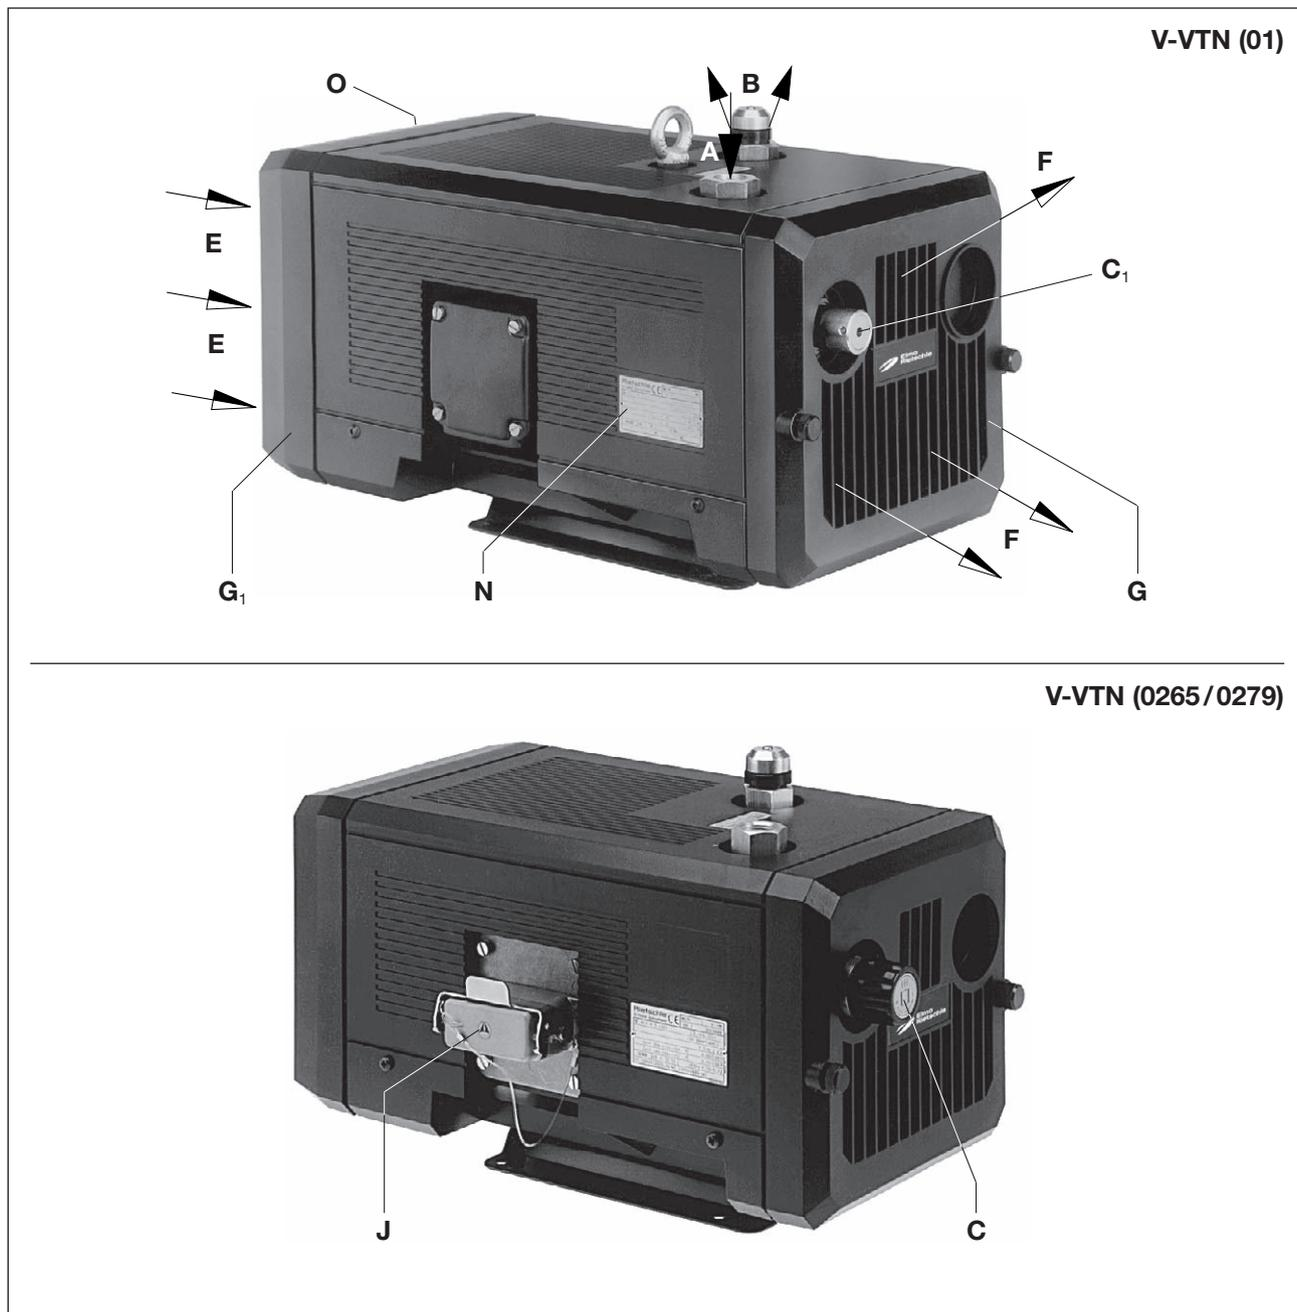
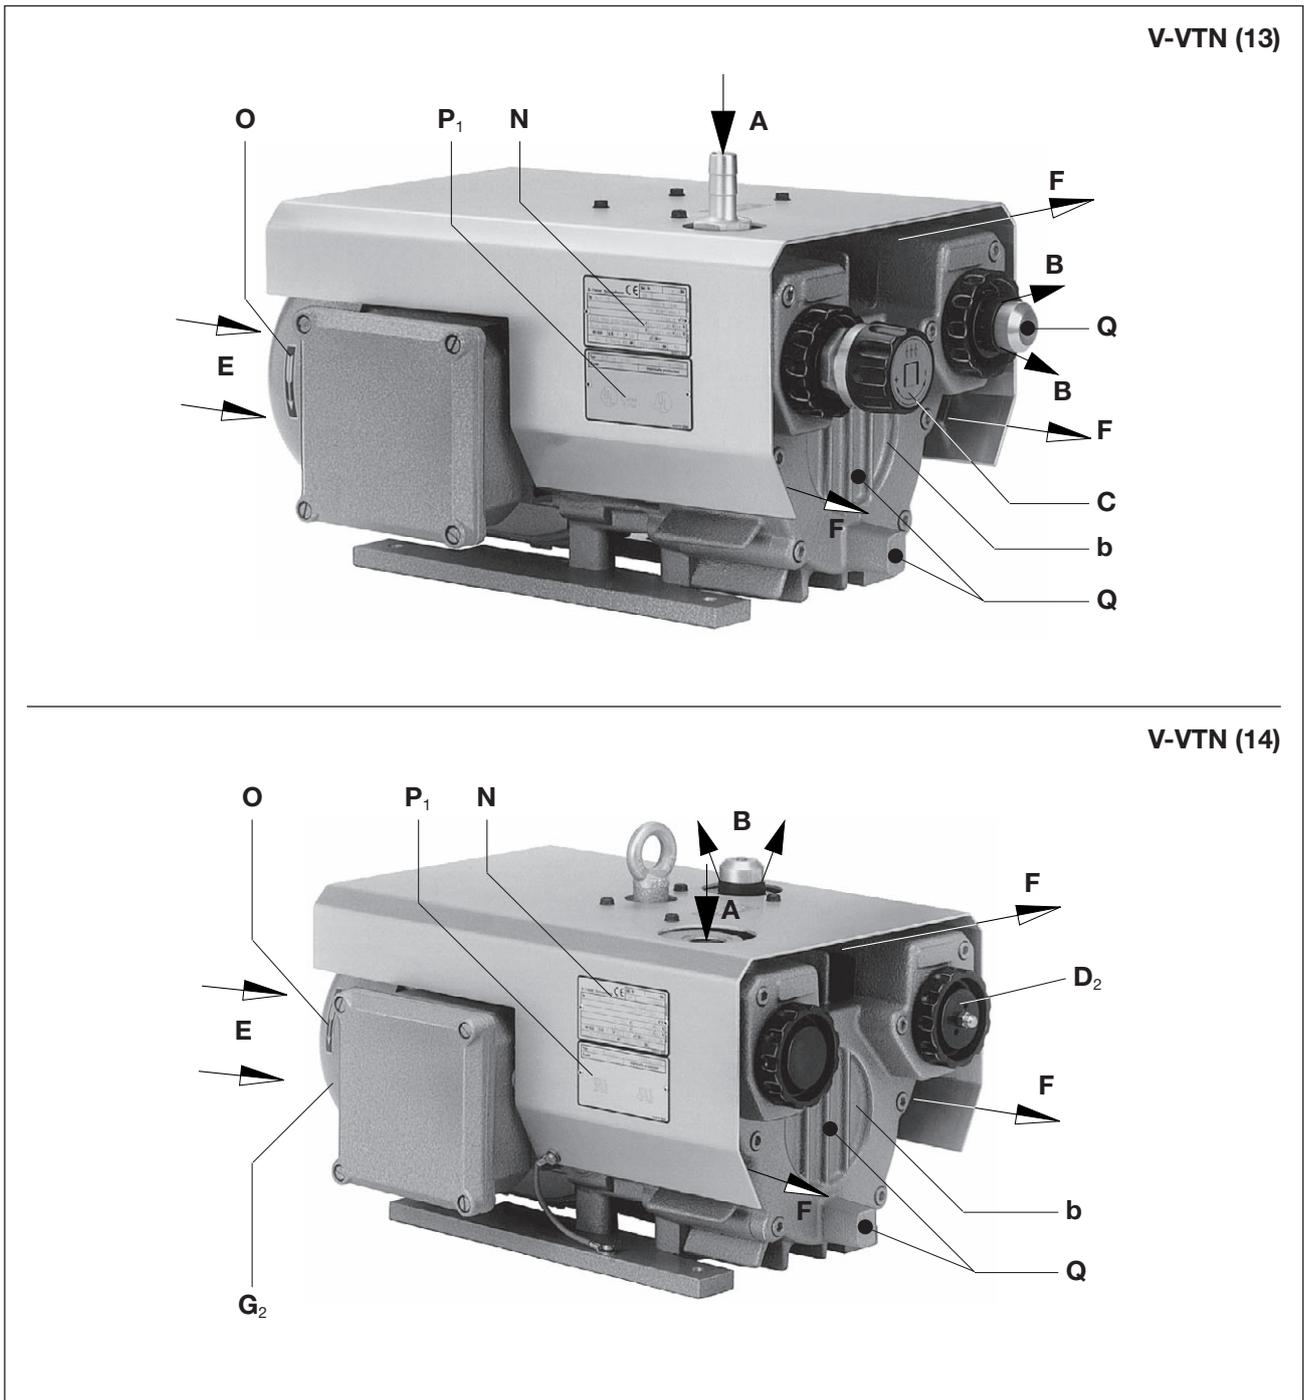

Fig. 2 Vacuum pump V-VTN (01) / V-VTN (02)
Fig. 3 Vacuum pump V-VTN (13) / V-VTN (14)
The V-VTN (14) has a ventilation valve on the pressure side (Fig. 3/D₂).
The V-VTN (02) and (13) have a vacuum regulating valve fitted as standard (Fig. 2/C) that enables the vacuum to be set to the required values which have an upper limit.
To remove the outlet grid (Fig. 2/G), the inlet grating (Fig. 2/G₁) and the housing lid (Fig. 3/b) at least 30 cm of space must be available for maintenance work. You must also ensure that the cooling air inlets (Fig. 2/E) and cooling air outlets (Fig. 2/F) must be at least 10 cm away from the nearest wall (outgoing cooling air must not be sucked in again).
- a) Vacuum connection at (Fig. 2/A).
The vacuum can be set by turning the control knob (Fig. 2/C) as shown on the symbol fitted to the button.
- a) The electrical motor data can be found on the data plate (Fig. 2/N) or the motor data plate (Fig. 3/P₁). The motors comply with DIN EN 60034 and are in protection class IP 55 and insulation class F. The appropriate connection diagram is located in the motor's terminal box (not for the plug connection version). The motor data must be compared with the data of the existing mains network (current type, voltage, network frequency, permitted current value).
- b) Connect the motor via the plug connection (Fig. 2/J) or a motor protection switch (for safety reasons a motor protection switch is required and cable fitting must be provided to provide strain relief for the connection cable). We recommend using motor protection switches with delayed switch off, depending on possible excess current. Temporary excess current may occur when the machine is started cold.
When the machine is at operating temperature the surface temperatures on the components (Fig. 2/ Q) may go above 70°C.